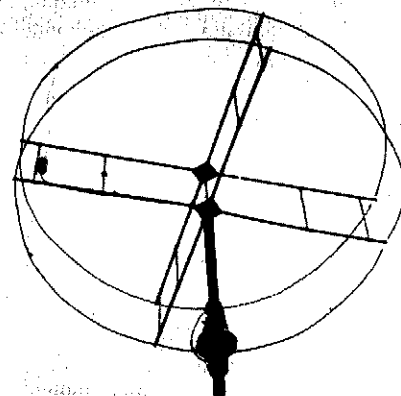

Fig 39—A photo of KA9LYR's completed loop antenna.
□ Fig 39 shows an effective, easy to build and inexpensive HF antenna. The plans are from an old issue of *QST* that I bought at the Wheaton Community Radio Hamfest in 1984.⁹ The more I read about the double half-wave loop, the more interested I became; so I decided to give it a try. This antenna can be built for any band (see Table 3), but I decided to try it for 15 meters, because of the convenient size. Table 4 is a materials list for the 15-meter antenna. Because the antenna is 85 inches wide, I suggest that it be assembled outdoors. The necessary materials can be found at most local hardware stores.